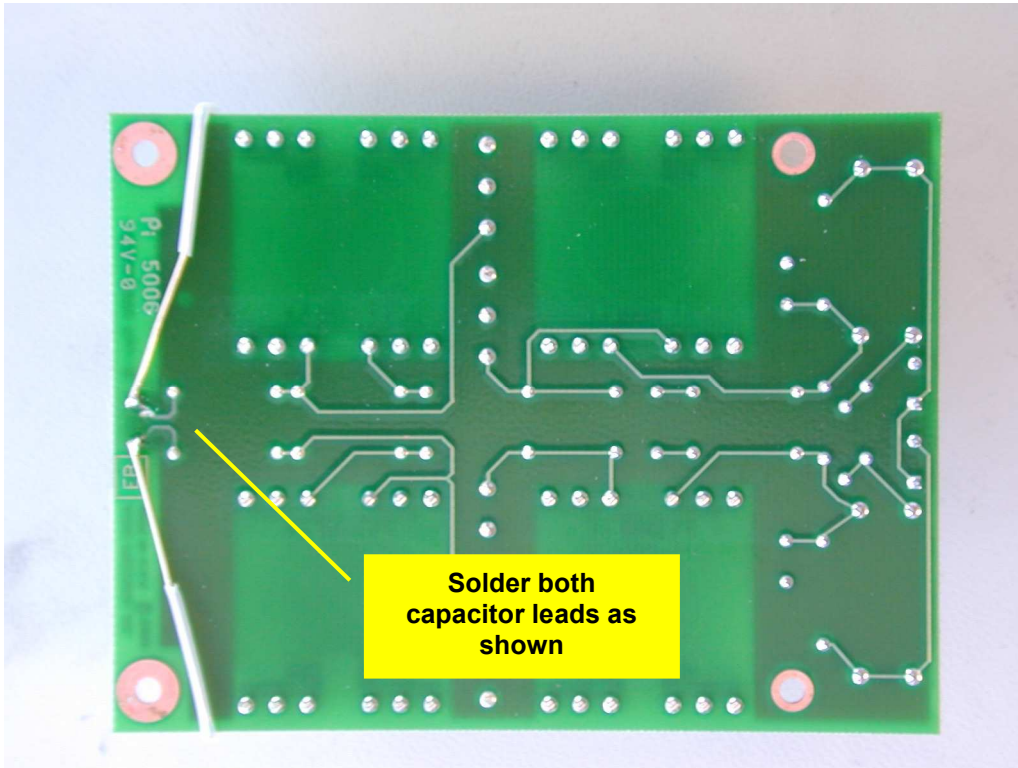

Figure 5
13. Cut and solder the leads of the 1 MFD capacitors to the bottom of the APX-581 circuit board as shown in Figure 5. Be sure to leave space between the circuit board mounting holes and the capacitor leads as shown in Figure 5.